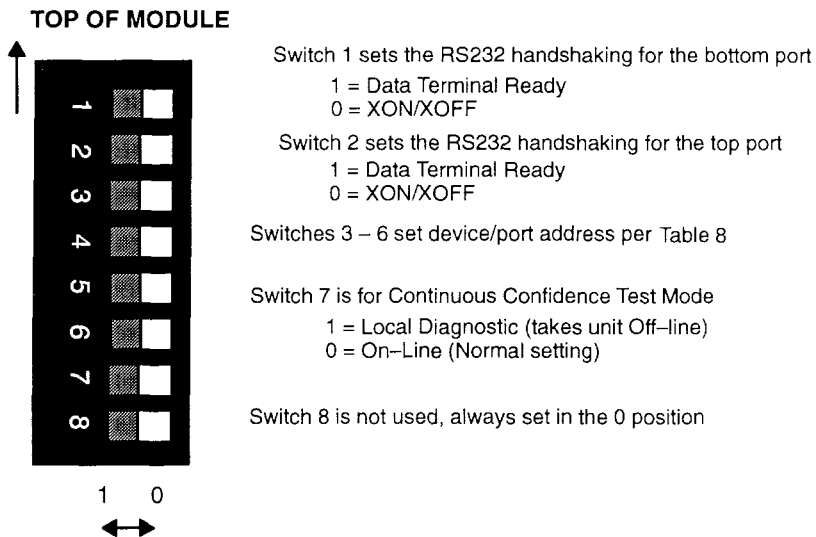

Figure 35 ASCII Drop Port Assignment Switches
Step 2 Using ASCII port switch shown in Figure 33 and Figure 35, set J892's RS232 Port address as shown in Table 5-2.